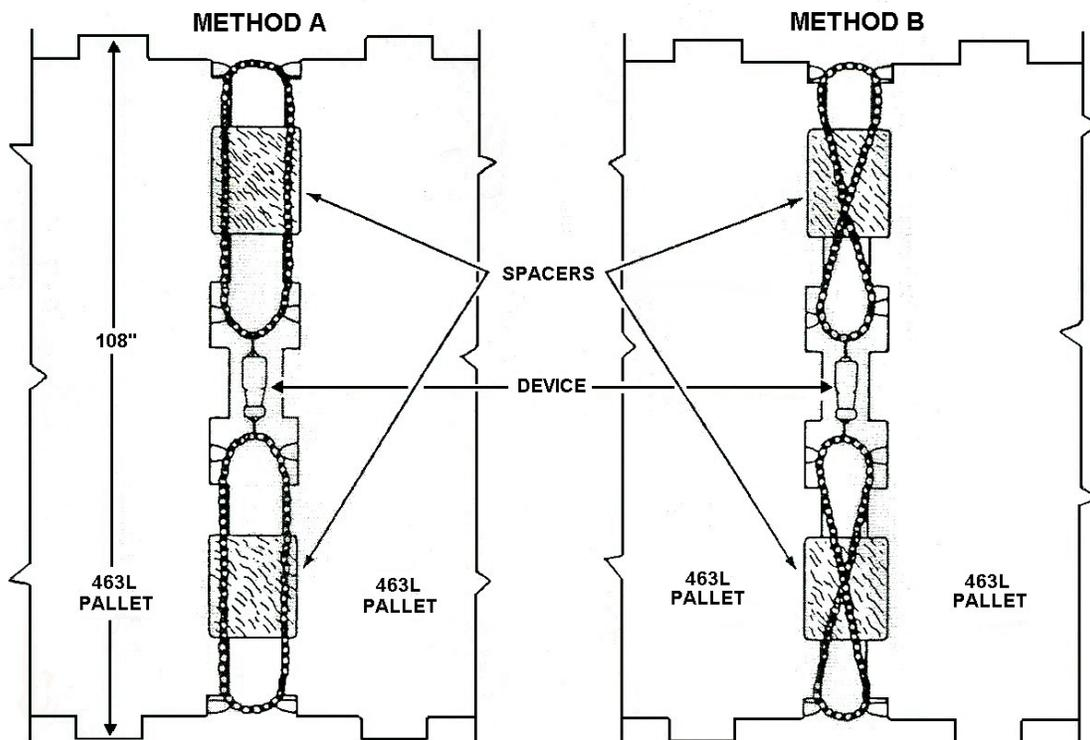

Figure 3-19
d. Chain pallets together using tie-down devices (see Figure 3-19).